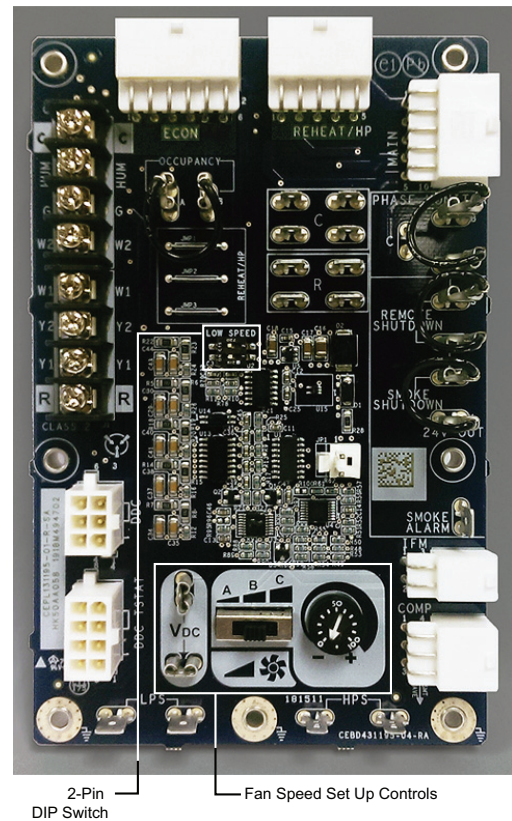
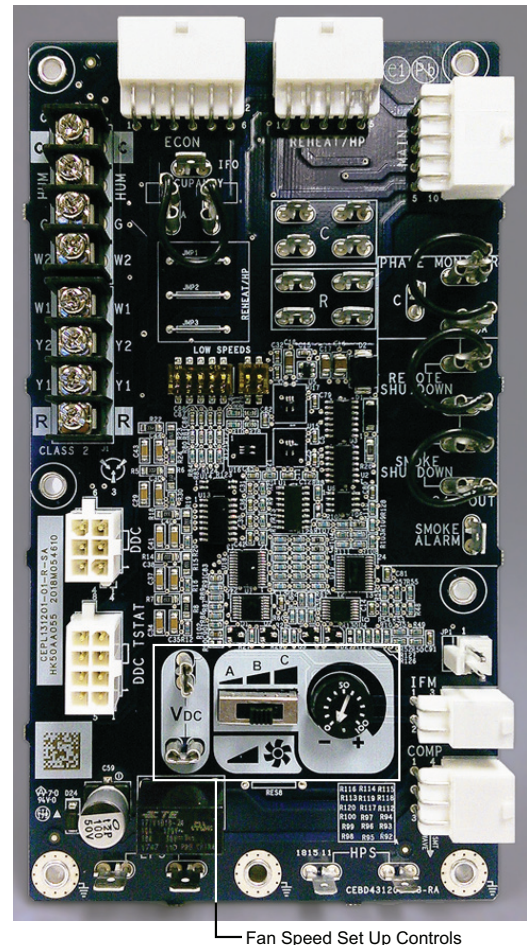

Fig. 7 — UCB Fan Speed Controls - 3-Phase Units
Fig. 8 — UCB Fan Speed Controls - Single Phase Units
The Fan Speed set up controls are located on the lower section of the Unit Control Board (UCB). See Fig. 7 for location on 3 phase voltage units or Fig. 8 for location on single phase voltage units.
The 2-pin DIP switch is common to both the single and 3 phase unit control boards (see Fig. 7 and 8). When replacing UCB, the board will be shipped as default without a low speed selected. To select correct FC low fan speed for 3 to 5 ton 48FC(G/H) units set both dip switches to “OFF” (0). See Table 1. The DIP switch positions can also be found on the unit's control label diagram.